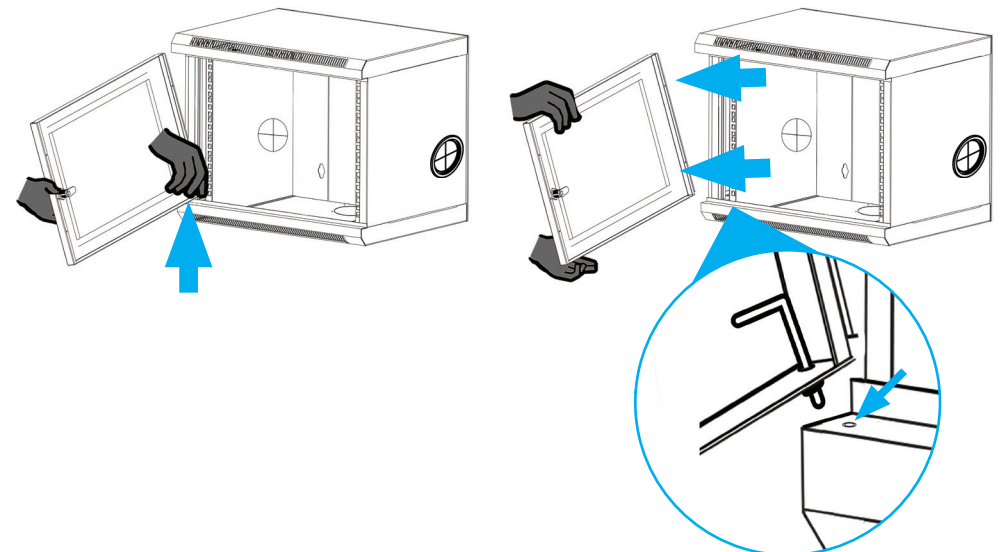

Figure 2
2. In the **Bottom Corner** of the **Inside** of the **Door**, Pull the **Pin Handle Up** and remove the **Door**. Retain the **Washer** from the **Bottom Corner**, for re-installation of the **Door**. The **Washer** may be located on the **Pin** or the **Lower Hinge Hole** on the **Door Frame** (Figure 2).